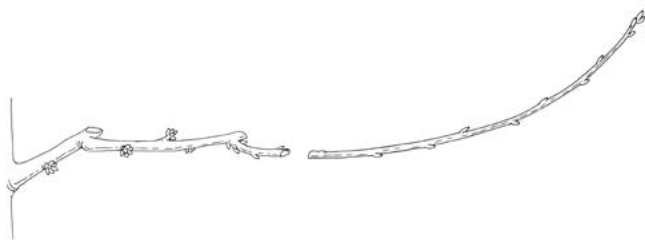
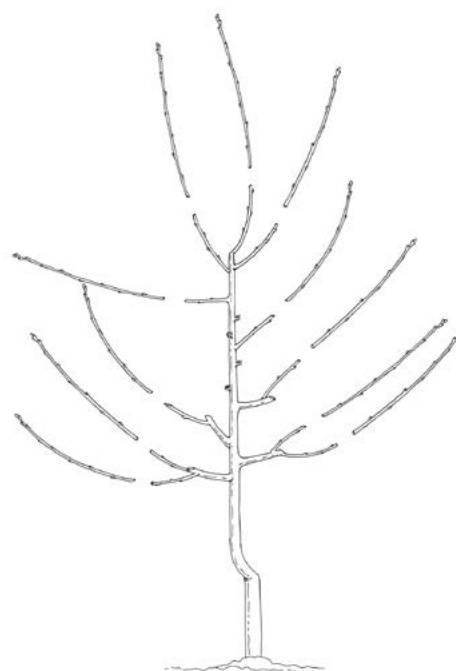

Figure 48
Figure 49
- Every “fruiting feather” is short-pruned annually, leaving two to three vegetative buds for leaf area renewal plus the basal flower buds for cropping (Figure 48); feather length should decrease slightly from canopy base to apex (Figure 49).